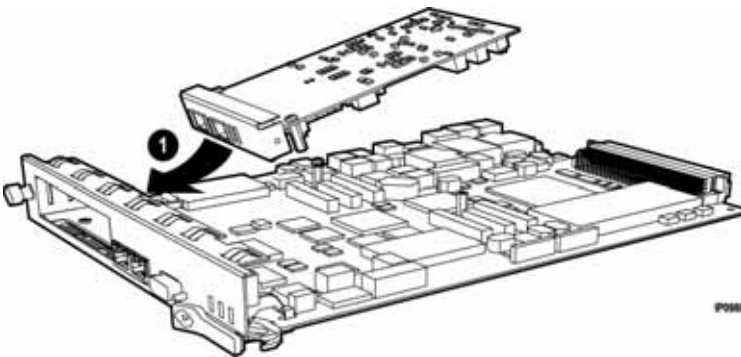
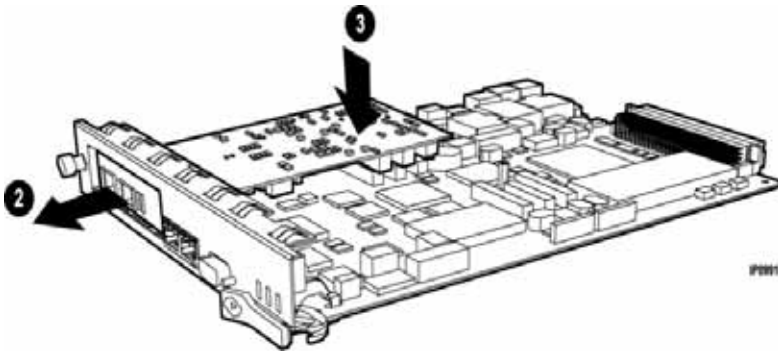

Figure 38: Position module at an angle (AX)
Figure 39: Slide in and seat module (AX)
6. Carefully slide the MMC face plate under the lip of the controller face plate. See Figure 38. Do not push the MMC past the controller face plate as shown in Figure 39.